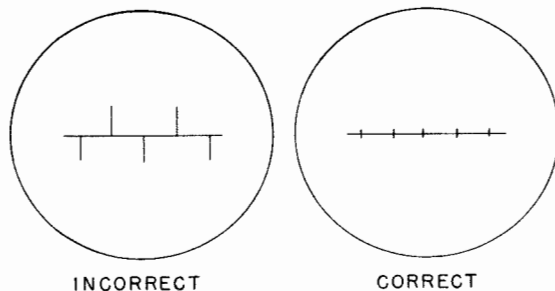

Figure 3-18. Adjustment of MOD BAL Control
(15) Release CAL IN button.
(16) Teletypewriter should be printing; if it does not, change position of NORM-REV switch, S603.
(17) Turn the LOW-HIGH-ADJ switch, S601, to the ADJ position and push the CAL IN button. The cathode-ray tube pattern should fit between the top and bottom engraved lines of the window, within about 1/16 inch. This is a sensitivity check of the tuning monitor tube V702 and amplifier tube V601B. If the pattern does not match the engraved lines, the circuits of V601 and the tube V702 itself need checking as described in Section 6.
(18) Turn the LOW-HIGH-ADJ switch to original (LOW or HIGH) position.
(19) Connect an external test oscilloscope, such as Oscilloscope OS-8/U, Navy Model OBL or OBT series, to the TONE OUTPUT or PHONE jacks, J1105 or J1402, and with TONE FREQ switch, S602, on EXT., TONE LEVEL control, R629, on 10, no tone input adjust MOD BAL control, R633, for minimum transients, as seen on the oscilloscope (see Figure 3-18).
(20) Adjust the %MARK control, R613, as follows: